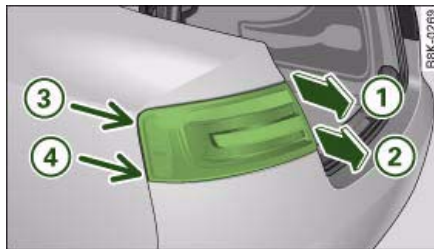

Fig. 303 Removing rear light from side panel
- Gradually ease the light housing out of the rubber mountings (positions ⇒ fig. 303 ③ and ④) by pulling alternately in direction of arrows ① and ②. If necessary use the tool for changing bulbs from your vehicle's toolkit to carefully apply some pressure between positions ③ and ④ ⇒ ①.